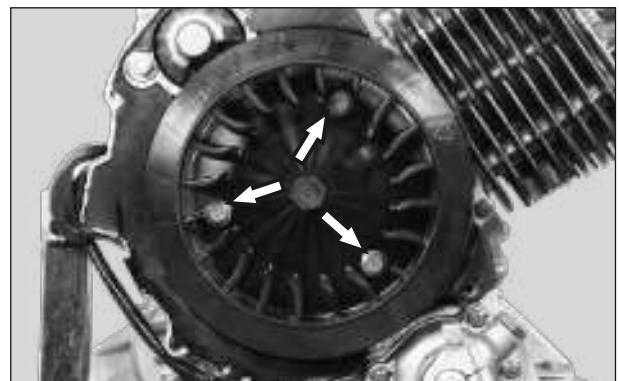

Fig. 3.38
- Loosen and remove 3 nos. hexagonal flange bolt M6X35 along with 3 nos. wave spring washer and 3 nos. punched washer from fan engine cooling. (Fig. 3.38)